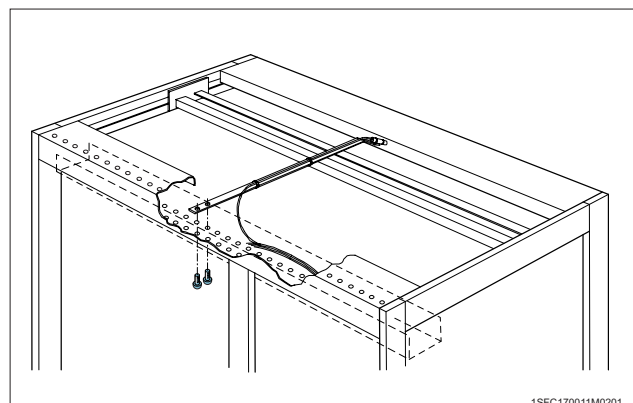

Figure 8
6. Attach the detector bracket onto the cubicle frame. See **Figure 8**.